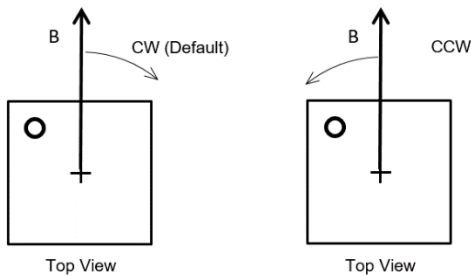

Figure 15: Positive Rotation Direction of the Magnetic Field
By default, when looking at the top of the package, the angle increases when the magnetic field rotates clockwise (CW) (see Figure 15 and Table 9). Figure 15 shows the positive rotation direction of the magnetic field.